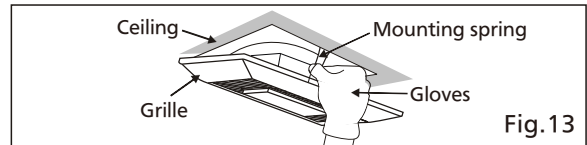

Fig. 13
16. Insert the other mounting spring into the slot as shown and mount grille to fan body. (Fig.13)